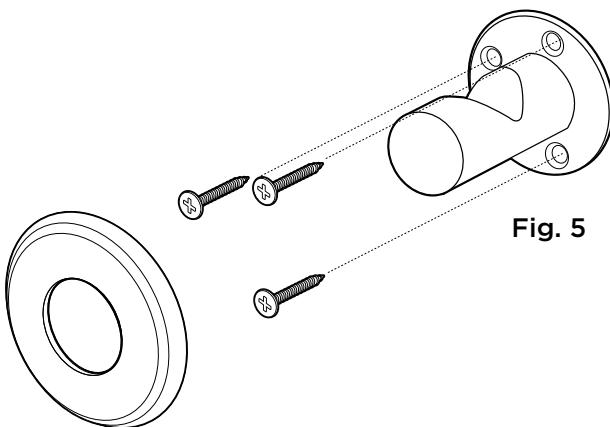

Fig. 5
- To install the bag hook, measure up 44" from finished floor in the desired location and mark the wall. **Fig. 5**